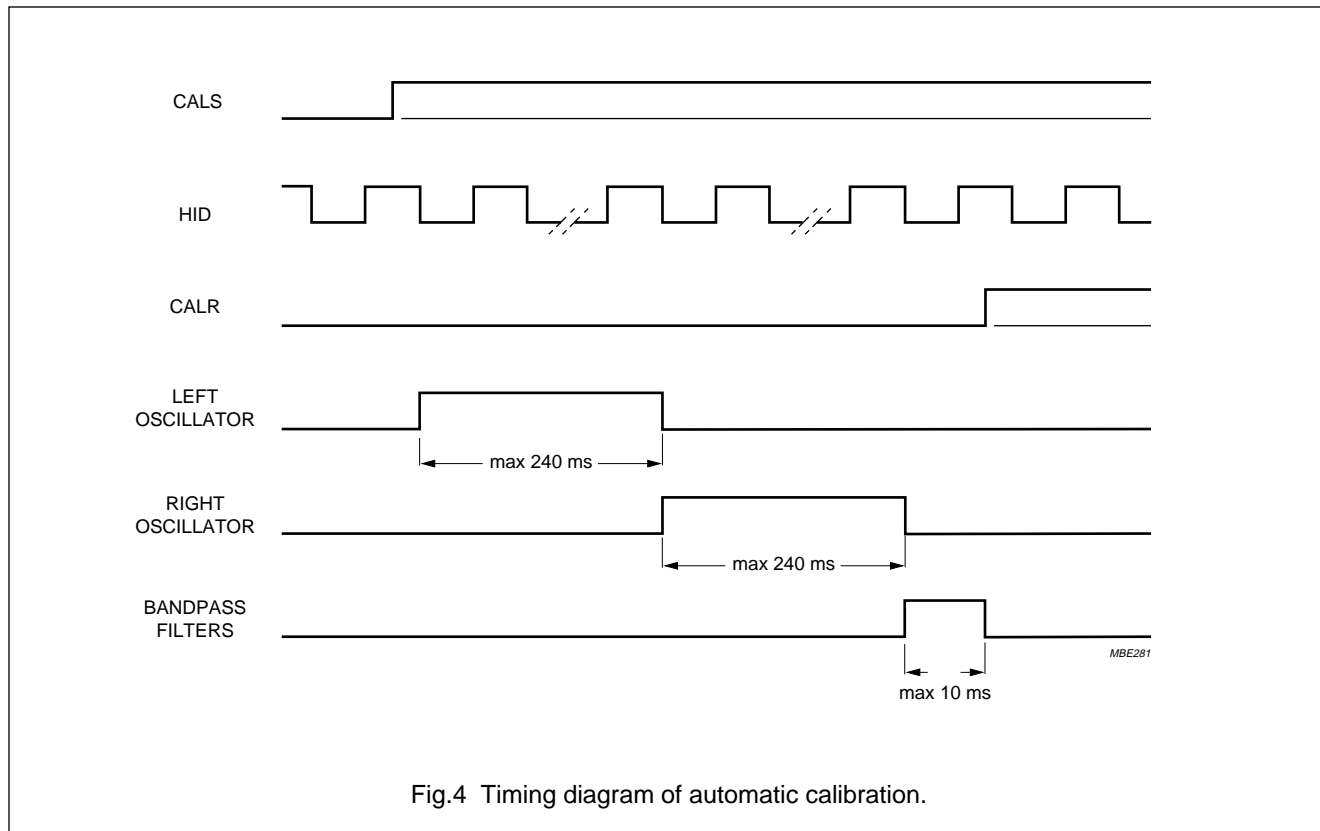

Fig.4 Timing diagram of automatic calibration.
By means of bit CALS the two integrated oscillators and bandpass filters can be calibrated in Loop-Through (LT) or record (REC) mode. Normally this will be done after start-up of the VCR. After setting of bit CALS the calibration procedure is automatically executed as shown in Fig.4. The calibration starts at the first negative edge of HID after CALS has been set. During the LOW period of HID (20 ms for PAL) the number of oscillator cycles is compared to a certain value stored in a Read Only Memory (ROM).